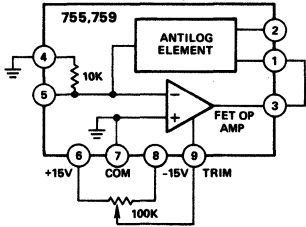

Figure 3. Trimming  $E_{OS}$  in Log Mode
**Trimming  $E_{OS}$**  — The amplifier's offset voltage,  $E_{OS}$ , may be trimmed for improved accuracy with the models 755, 759 connected in its log circuit. To accomplish this, a 100k $\Omega$ , 10 turn pot is connected as shown in Figure 3. The input terminal, Pin 4, is connected to ground. Under these conditions the output voltage is: